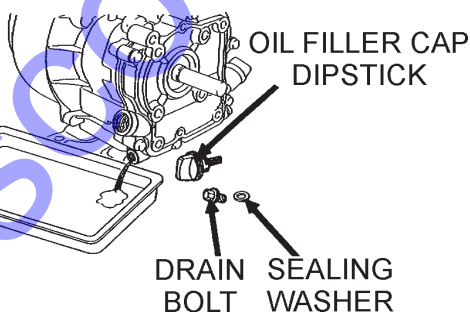

Figure 19. Engine Oil (Draining)
4. Place the **Pump Vacuum Tester** (P/N 7000030) over the pump suction (inlet) opening (Figure 19) with the vacuum gauge facing upwards. It may be necessary to apply a small amount of water around the rubber seal of the vacuum tester to make a good suction fit.
- Drain the engine oil when the oil is **warm** as shown in Figure 19.